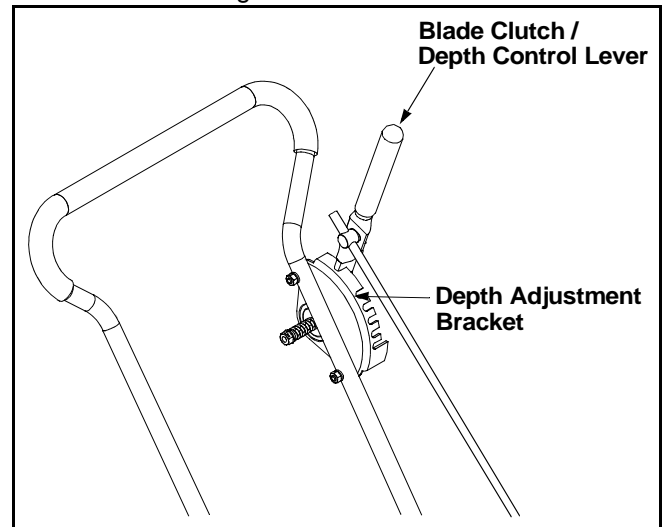

Figure 7
- Move the blade clutch/depth control lever to the left and place it in the top notch in the depth adjustment bracket. See Figure 7.